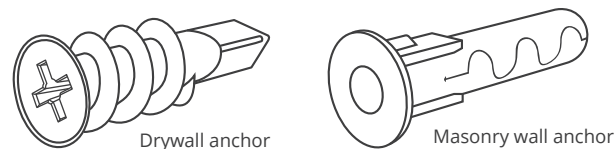

Fig. 2
- 2 Screw the anchors (Fig. 2) into wall at the marked locations. **The distance from the top screws to the floor should be approx. 19" to 21" (48cm to 53cm).** If a stud is in the way, do not use the drywall anchor supplied, just drive supplied mounting screw directly into the stud. For masonry walls, use the masonry wall anchors provided and drill a 4.5mm (3/16inch) hole using a masonry drill bit (not supplied).